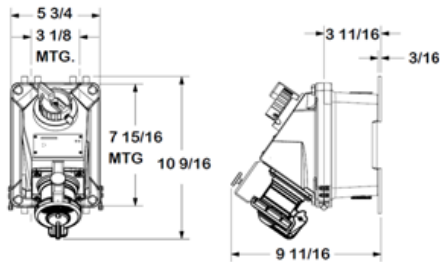

Fig. 1
1. Receptacle assembly must be mounted securely onto column, wall, or other structure that is able to support the device and associated conduit system. Structure is to be prepared for use of four (4) 3/8" steel bolts (furnished by others) using lugs in the enclosure spaced as shown in Fig. 1. Device is equipped with factory installed hinges. Device must be mounted with the hinges on the bottom and the receptacle mounted in downward direction.